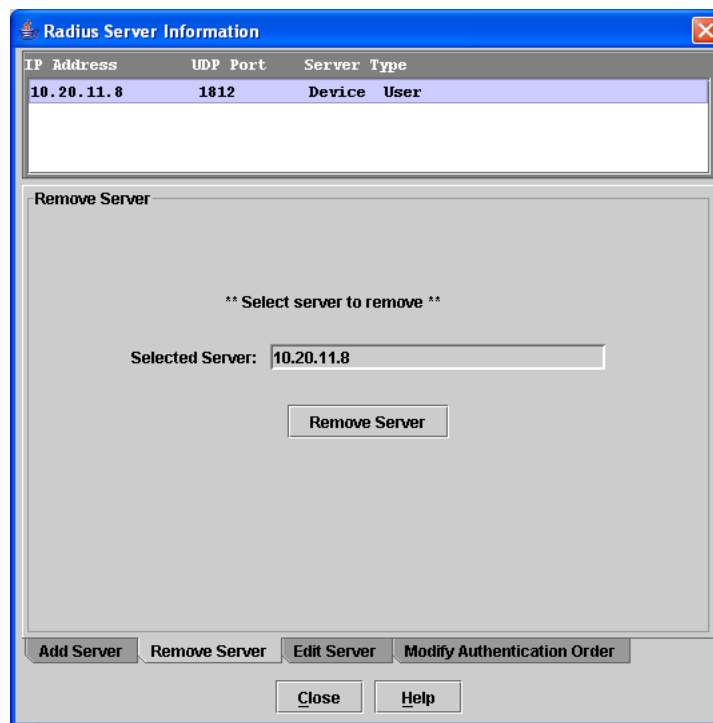

Figure 2-11. Remove Server
2. In the Radius Server Information window, shown in Figure 2-11, click the **Remove Server** tab.